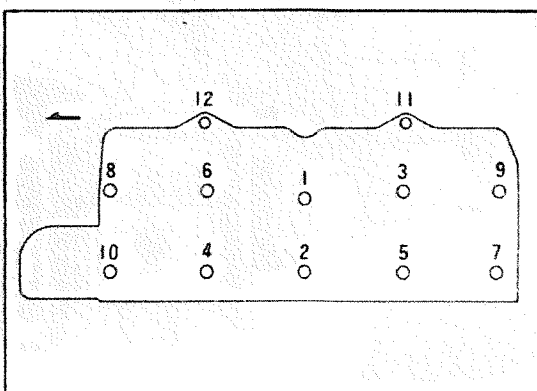

Fig. 6 Cylinder Head Bolt Tightening Sequence
2. Install the cylinder head on the block by using two stud bolts as guides and tighten bolts in the sequence illustrated in Fig. 6. The bolts should be tightened in 3 to 4 stages, first weakly and finally firmly to the specified torque.